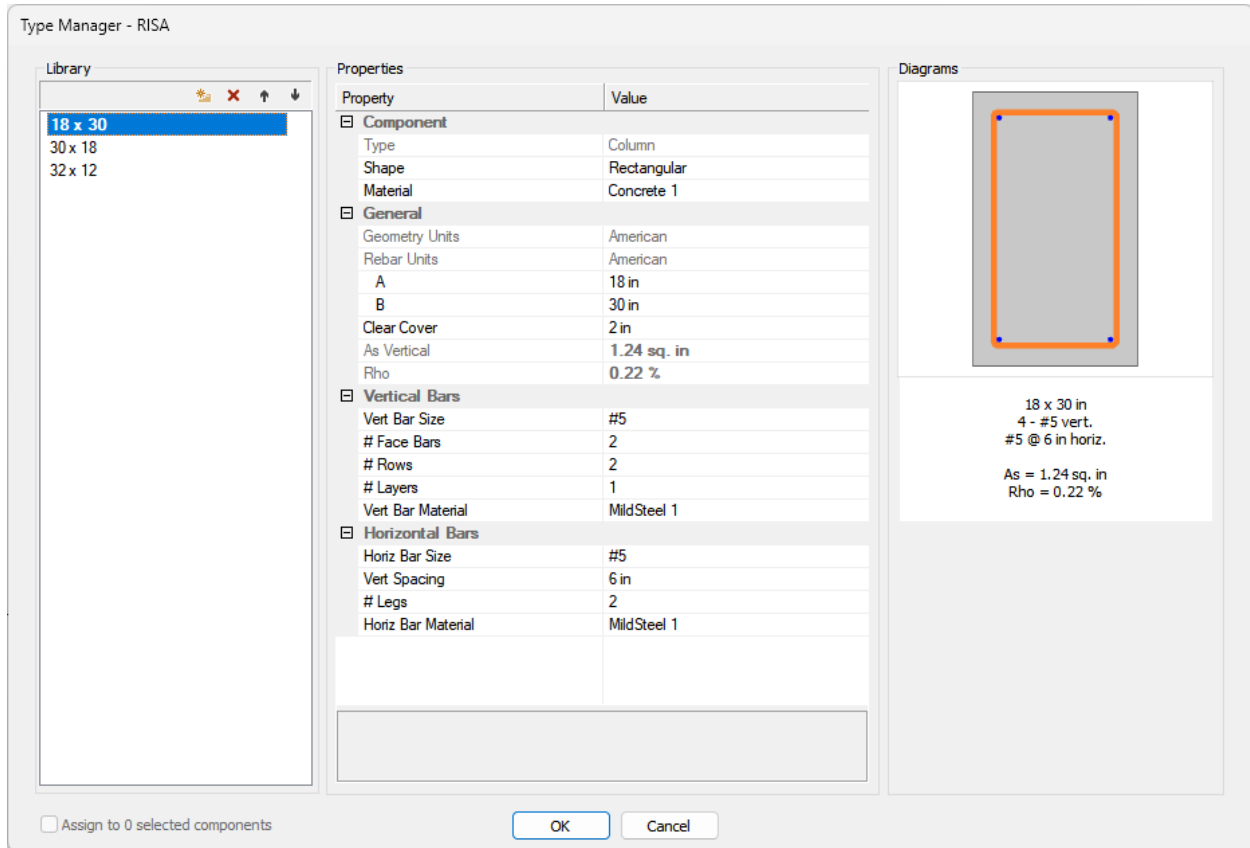

FIGURE 3-16
- All columns have been assigned a *Section Type* upon creation. Go to *Model* → *Type Manager* and click on the **Define Section Type**  icon. The *Type Manager* window will open as shown in **FIGURE 3-16**.